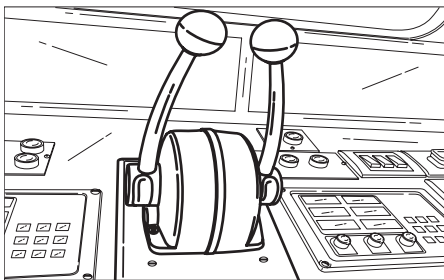

Figure 4.20
- Before starting the engine confirm the fuel throttling and gear box engaging lever is in NEUTRAL position (refer figure 4.20).